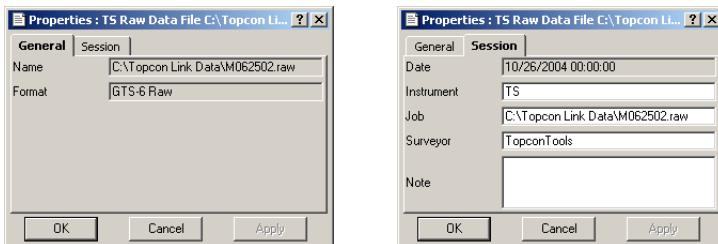

Figure 4-53. Properties for TS Raw Data File
- displays the name and format data in the *General* tab (Figure 4-53)